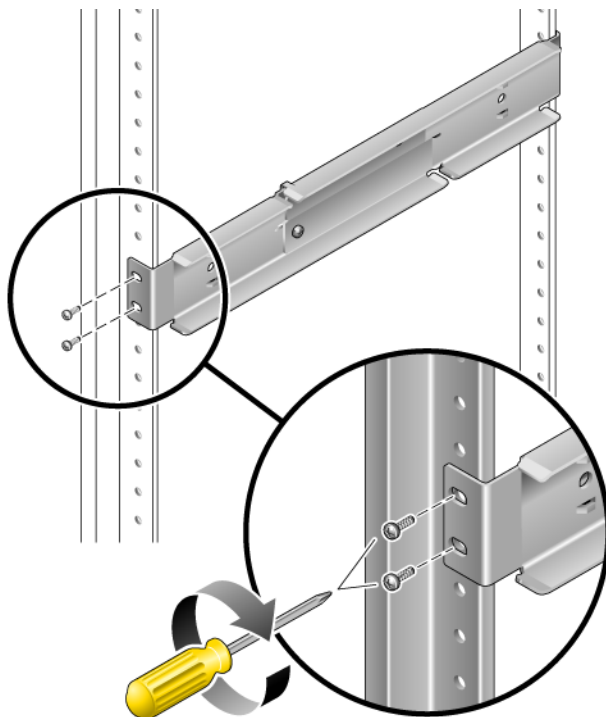

FIGURE 3-16 Securing the Front of the Adjustable Rails to the Rack
3. Lift one of the adjustable rails to the desired location in the rack. Using two screws, secure the front of the rail in the rack (FIGURE 3-16).